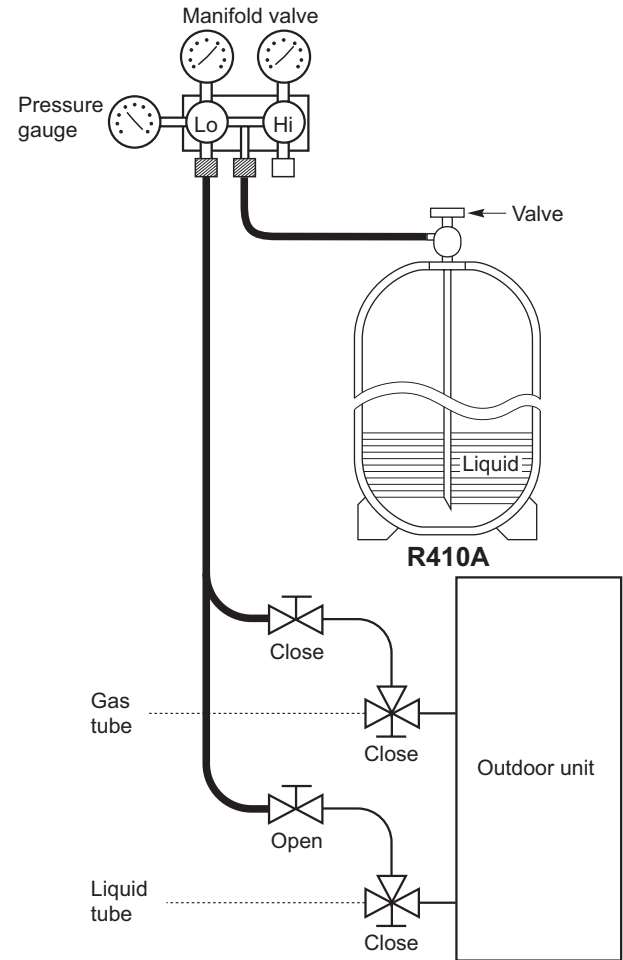

Fig. 2-29
- Charging additional refrigerant (calculated from the liquid tube length as shown in Section 2-7 “Additional Refrigerant Charge”) using the liquid tube service valve. (Fig. 2-29)